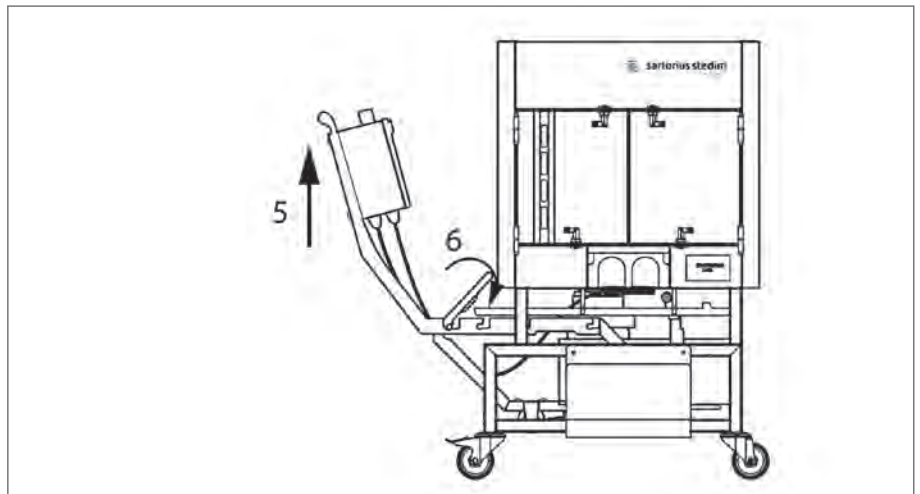

Figure 64
4. Using the drive unit handle, raise the LevMixer® drive unit to an upright position (see Fig. 64 | 5). While holding the LevMixer® drive unit in this position shift the latch toward the Palletank® for LevMixer® so that the cross bar rests on the grooves in the guide rails (see Fig. 64 | 6).